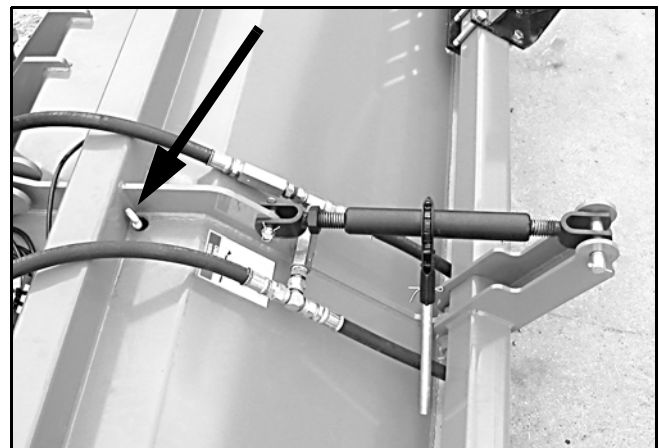

Figure 36. Dipstick Location
9. Add SAE 85W90 gear oil through the dipstick cover. Use the dipstick to check the oil level (Figure 36) and add oil accordingly.